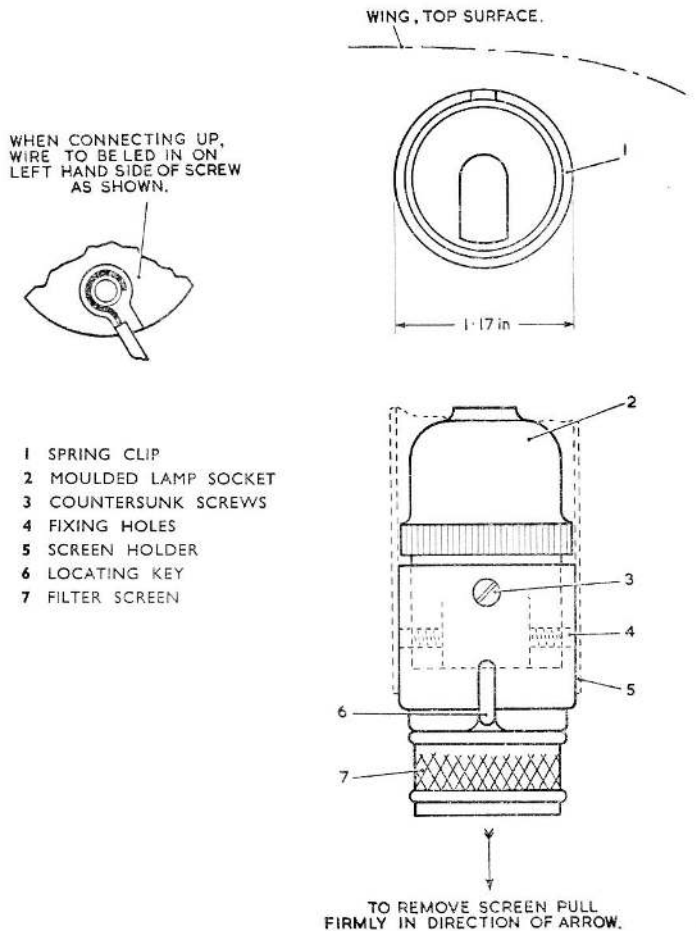
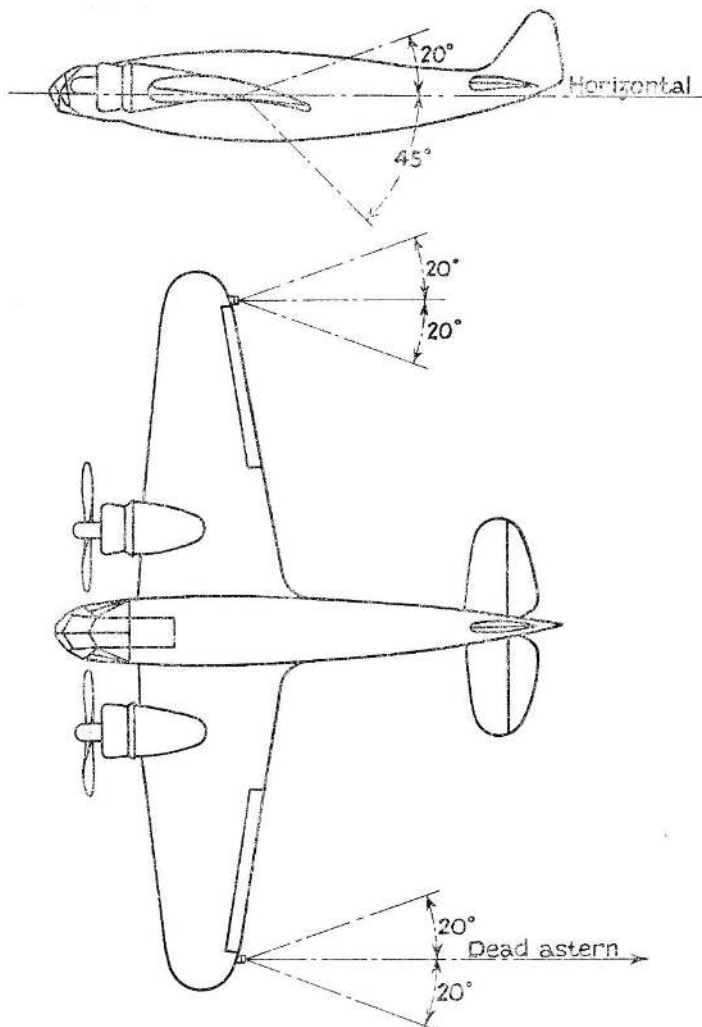

Fig. 1. Recognition lamp, Type A
Fig. 2. Angles of divergence
2. Fig. 1 shows the lamp, which is 2.75 in. long, 1.17 in. in diameter, and weighs 2 oz. Fig. 2 shows the range of visibility of the lights together with the position in which they are mounted on the aircraft. With reference to fig. 1, a moulded lamp socket (2) of the standard spring loaded plunger type is employed, the skirt has holes (4) drilled and tapped at diametrically opposite points to take two 6 B.A. fixing screws for securing the fitting to the airframe. The brass filter screen holder (5) fits over the lamp socket to which it is attached by two 6 B.A. csk/hd. screws (3). The filter screen (7) is a sliding fit in its holder, and has three small raised punchings which engage behind the recessed end of the
4. The lamps are mounted on the trailing edge of the wing tip, either externally or behind transparent windows in the positions indicated in fig. 2. The angular range of visibility may also be seen in this illustration, the lamps being so positioned that obstruction by the airframe is reduced to a minimum. Two holes, tapped to take 6 B.A. screws, and situated on either side of the lamp socket, are used for securing the lamp to the aircraft. Care should be taken to ensure that the fixing screws do not project through the skirt of the lamp socket, otherwise difficulty will be experienced when inserting the filament lamps.